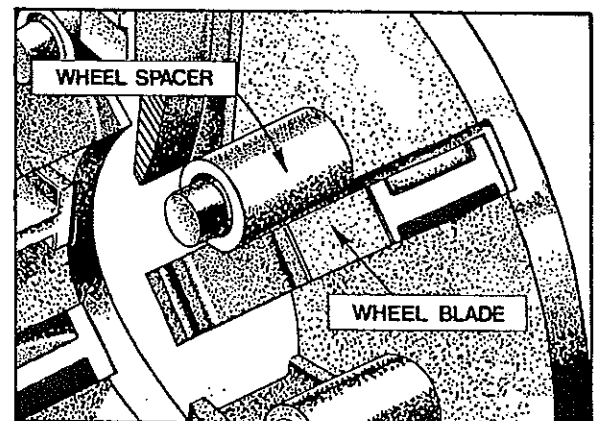

Figure 5. DO NOT STRIKE WHEEL SPACER.
**CAUTION: Do not strike wheel spacer (FIG. 5).**
- b. Install wheel blades through opening in center of wheel. The raised shoulder on the back of the wheel blades rests against the wheel spacers when properly installed. (FIG. 5).